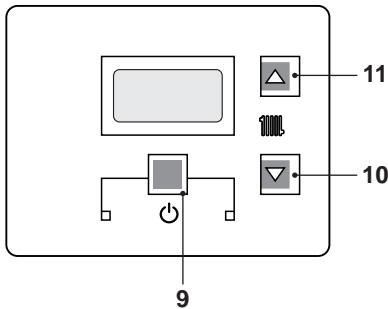

Fig. 7.32
- Enter the "programming mode" by pressing keys 9 - 10 - 11 (Fig. 7.32) for 10 seconds at the same time until the letters **Pr** that alternate with code **01** are displayed on the LCD display, indicating that "parameter 01"(Fig. 7.33) has been activated.
- Press keys 9 and 11 (Fig. 7.32) at the same time until the value of parameter 10 (30=180 seconds) is displayed on the LCD display (Fig. 7.35).
- By pressing key 9 (Fig. 7.32) confirmation of the inserted value is obtained.
- Press keys 9 and 10 (Fig. 7.32) at the same time to exit without changing the value (return to the parameters list Fig. 7.34)
- Press keys 9 - 10 - 11 (Fig. 7.32) at the same time for 10 seconds to exit the "programming mode".